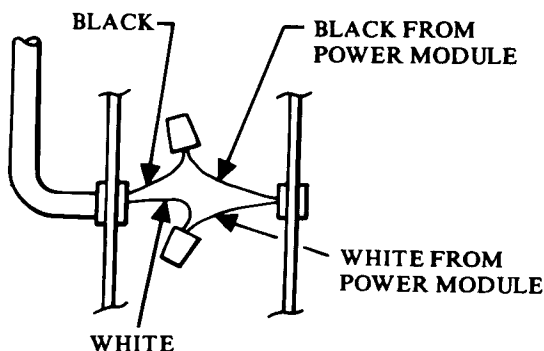

FIGURE 2
4. Connect black and white wires from the pigtails in the air cleaner junction box to the corresponding colors in the supply circuit (See Fig. 2.)